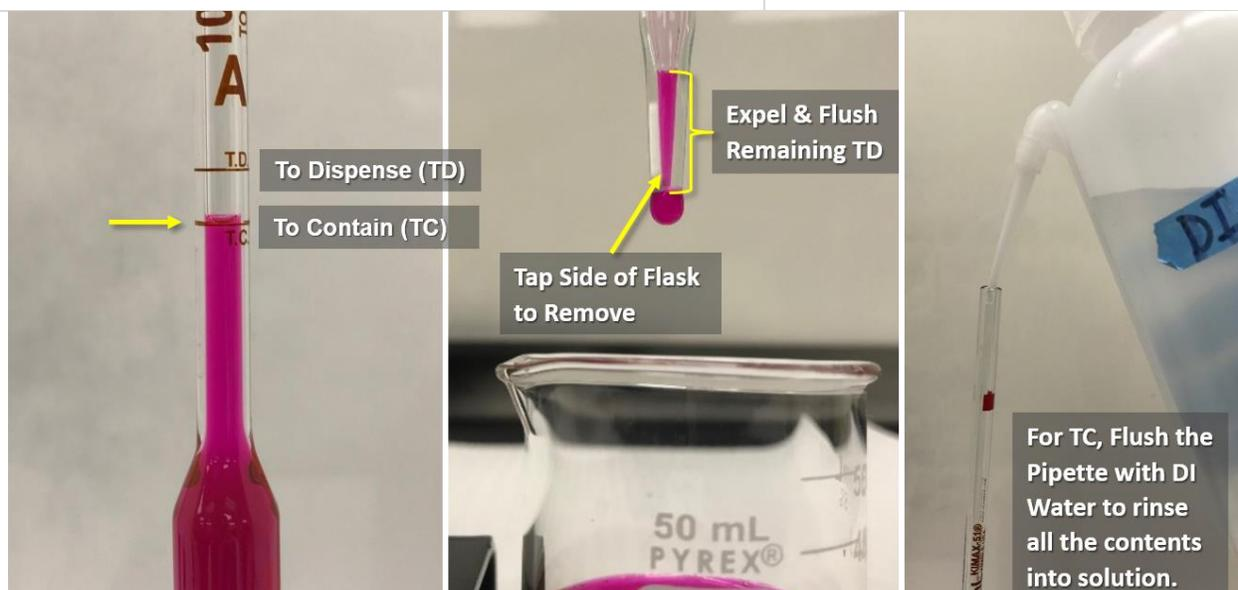

Figure 76. Dilute 5 mL of stock solution into 1000 mL flask and bring to Volume with DI water
**STEP 2** | Pour a small amount of stock solution into a small beaker. Prime the pipette with stock solution first. Discard this solution into a waste beaker. Then transfer 5 mL of stock solution into the 1000 mL (1 Liter) flask using the primed volumetric pipette. Fill the pipette to the “TC” (To Contain) line. Dispense into the 1000 mL flask. Use a rinse bottle with fresh DI water to flush the remaining contents in the pipette into the flask. Fill the 1000 mL flask to volume with DI water (**Figure 76**). Gently invert the flask three times to mix the solution dilution (Rhodamine is more viscous than water).